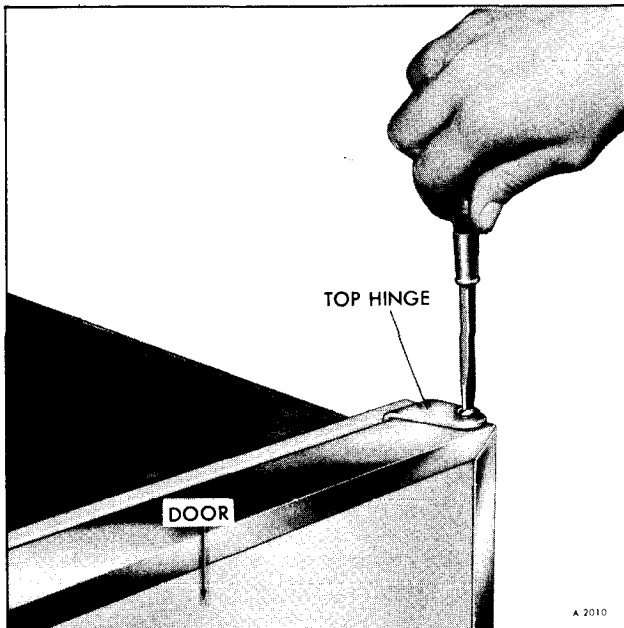

Figure 7-Removing Top Door Hinge
1. Remove screw at top of door hinge and release travel lock (figure 7).
2. Install top hinge pin (figure 7), and fasten travel lock.